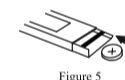

Figure 5
4. Use pointed object such as a pen to remove old battery. Discard battery lawfully. Replace with new 1.5V DC button type LR41 or SR41, UCC392, or equivalent. Be sure battery is installed with "+" polarity facing up. (See Figure 5)